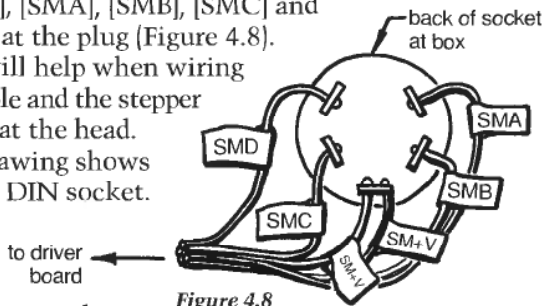

Figure 4.8
14. Install the stepper motor socket on the front panel. Connect wires from the stepper driver board [SM+V], [SMA], [SMB], [SMC] and [SMD] to the back of the socket. I suggest that you clearly label the wires [SM+V], [SMA], [SMB], [SMC] and [SMD] at the plug (Figure 4.8). This will help when wiring the cable and the stepper motor at the head.